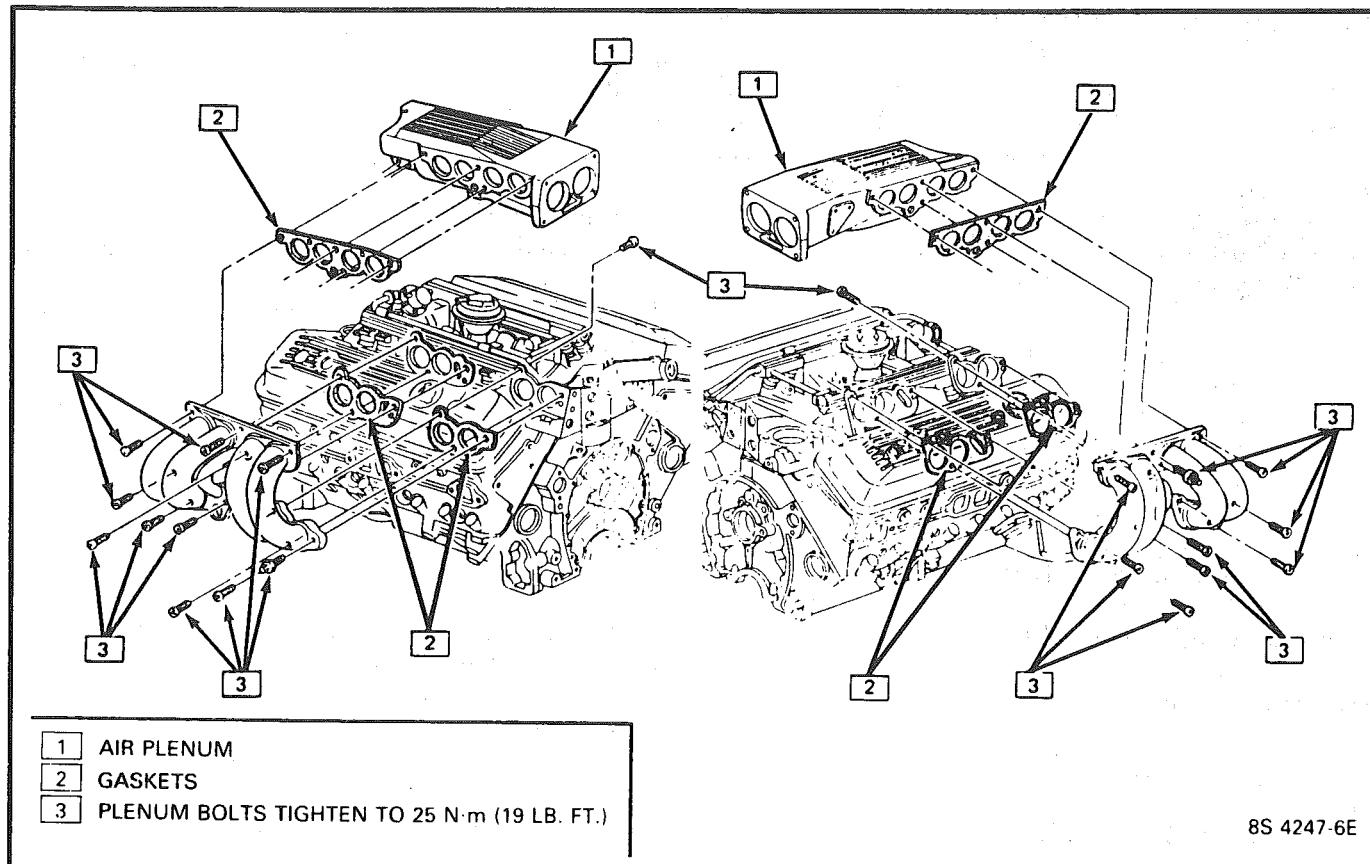

Figure C2-6
### Plenum (Figure C2-6)
2. Reverse removal procedures. See Figure C2-6 for bolt torque specifications.